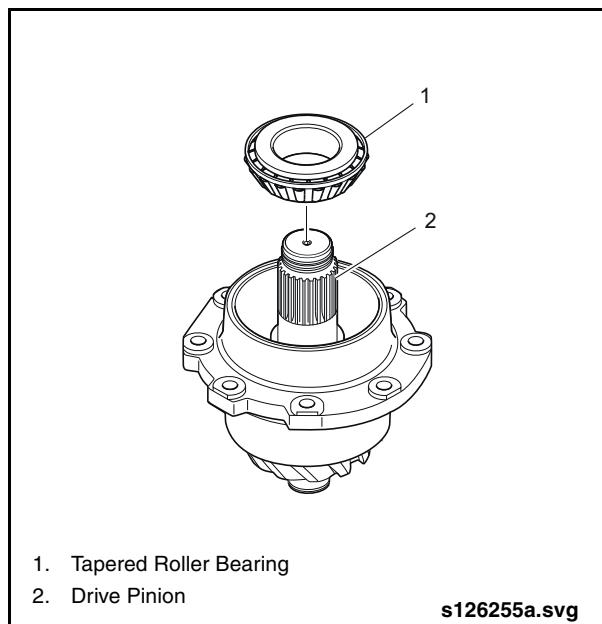

Fig. 2-100: Installing Outer Tapered Roller Bearing
2. Install the tapered roller bearing on the drive pinion gear, ensuring it is fully seated. See "Fig. 2-100: Installing Outer Tapered Roller Bearing" on page 80.